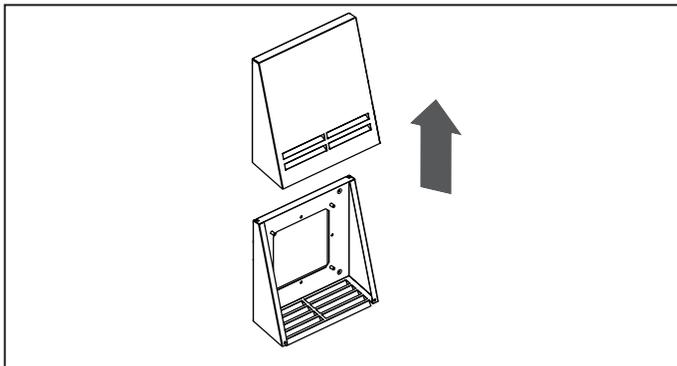

Fig. 8a.
- Fig. 8a - for the VENTO Solar V60 Pro / Pro2 models. Disassemble the front part of the outer ventilation hood.